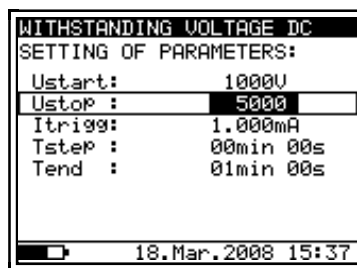

Fig. 30. Set-up menu in Withstanding Voltage function
- Press the SELECT key, (the set-up menu (Fig. 30) appears on display);